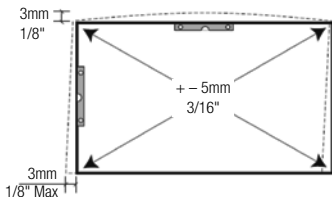

FIG. 13
- E) Check the unit for square using diagonal measurements. Shim frame to ensure the unit is square. Check the unit for square. The difference between the diagonal measurements shall not exceed 3/16". (Fig. 13)